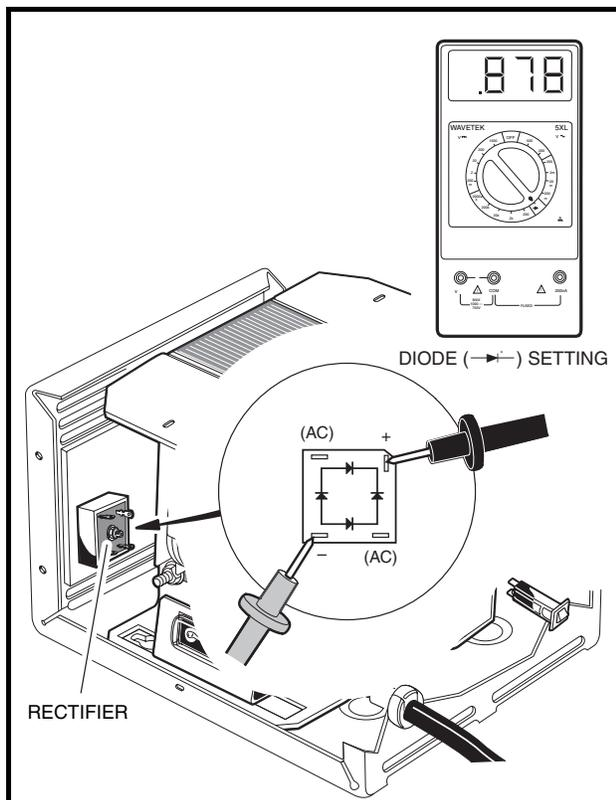

Figure 5-12 Rectifier Test
3. Disconnect all four wires from the rectifier (**Figure 5-12, Page 5-16**).
4. Using a multimeter set to the diode test function ($\rightarrow|$), place the black (-) probe of the multimeter on the positive (+) terminal of the rectifier. Move the positive (+) probe to each of the remaining three rectifier terminals and note the readings (**Figure 5-12, Page 5-16**).